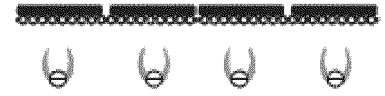

Fig.13
1. **Direct Cooking** - Occurs when the burners directly below the food are on. This method of cooking is ideal for most grill applications. (See Fig. 13)